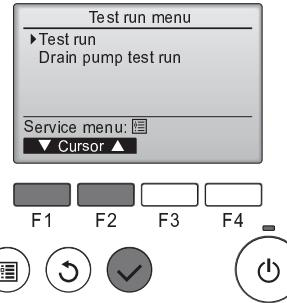

Fig. 7-5
- ④ Select "Test run" with the **F1** or **F2** button, and press the  button. (Fig. 7-5)